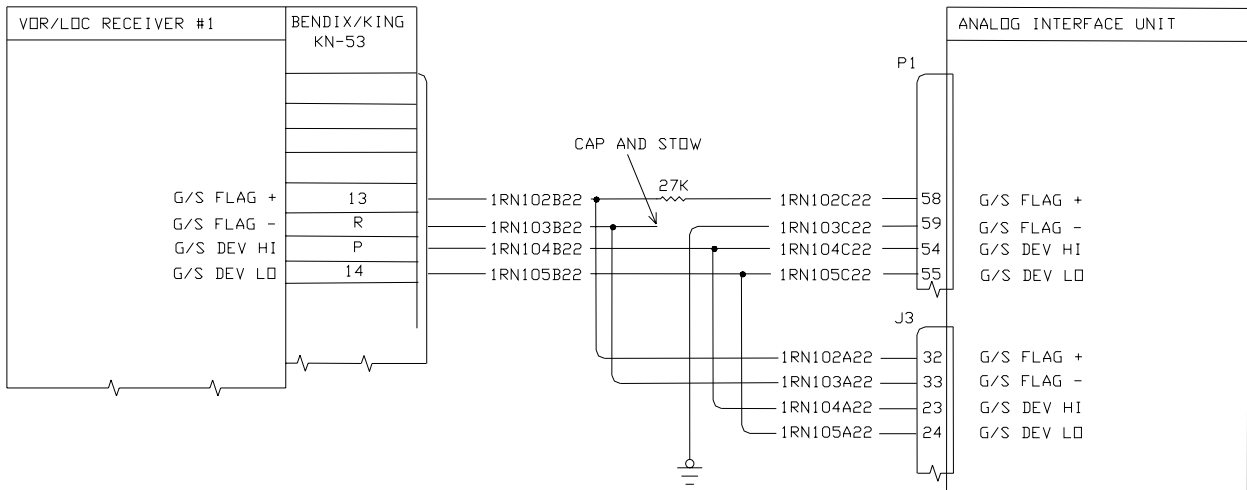

Figure 2
3. Add a 27.0K-ohm resistor (Item 1) to the Glideslope +Flag wire from the KN-53 and to the AIU Glideslope +Flag wire cut in step 1 (See Figure 2).
4. Cap and stow the Glideslope –Flag wire from the KN-53 cut in step 1 (See Figure 2).
5. Connect the Glideslope –Flag wire from the AIU cut in step 1 to a local airframe ground (See Figure 2).